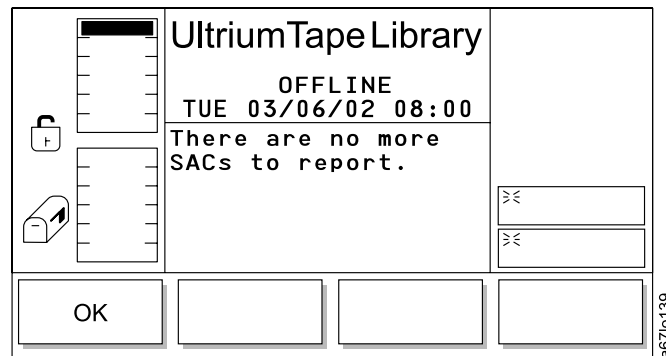

Figure 161. Normal Service Dialog
- If **OK** is selected, the Normal Service Dialog displays (see Figure 161).
When **Normal** is selected from the Start Dialog, the Normal Service Dialog displays (see Figure 161). Go to "Service Action Codes" on page 195 for an explanation of the SACs that the Normal Service Dialog displays.